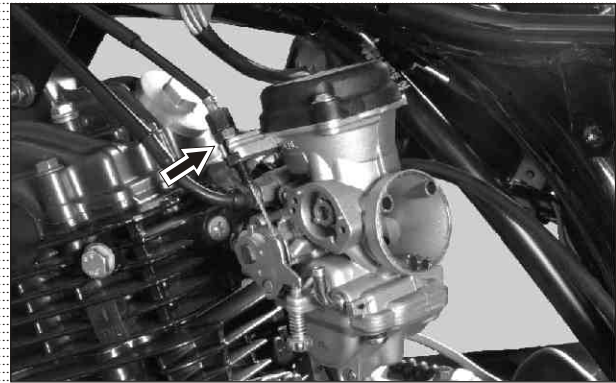

Fig. 4.15
- Loosen and remove throttle cable assembly adjuster and disconnect cable from the carburettor assembly. (Fig. 4.15)